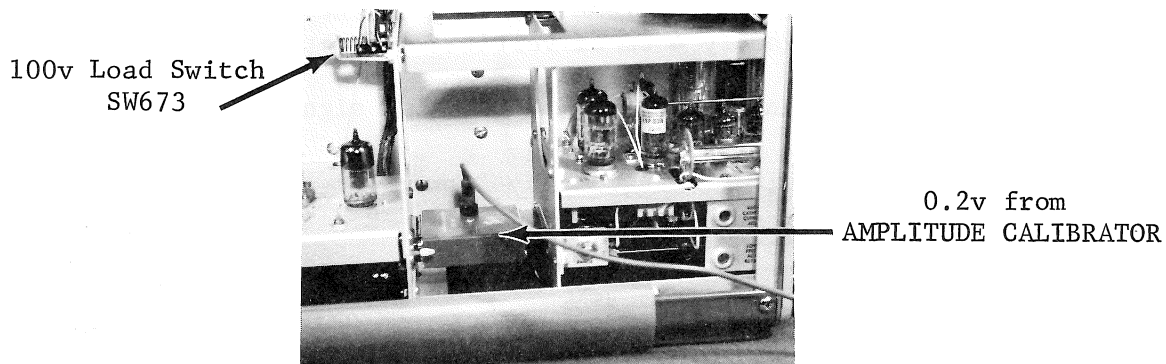

Figure 21
1. Insert the GAIN ADJUST ADAPTER between the plug-in and the main frame vertical. (See Fig. 21)
2. Set the 100v load switch (SW673 - located in the upper right hand corner of the plug-in box - see Fig. 21) to the pull-forward position.